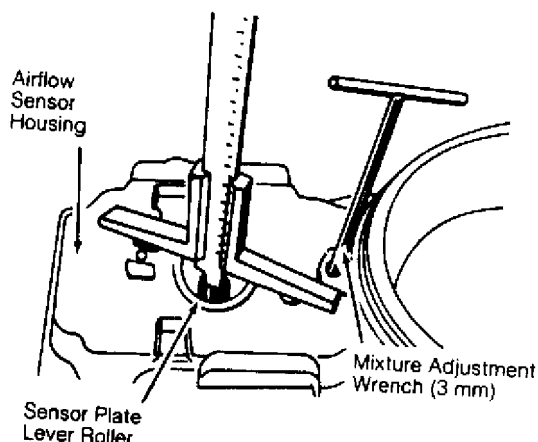

Fig. 2: Adjusting Sensor Plate Lever On Airflow Sensor Housing
1) Check sensor plate for centered position in airflow sensor housing. See Fig. 2. If plate binds on housing or is off-center, remove 6-mm bolt holding plate to lever. Coat bolt with locking compound and install finger tight.
1) With fuel distributor removed from airflow sensor housing, measure distance between roller on sensor plate lever and contact points of fuel distributor on top of airflow sensor housing. See Fig. 2.